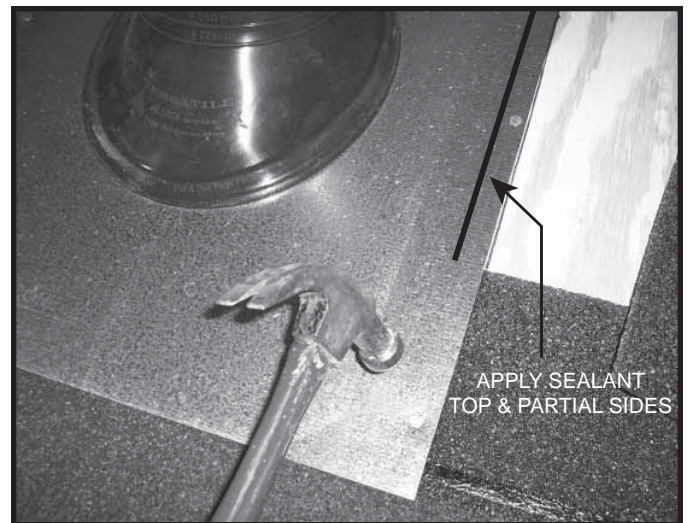
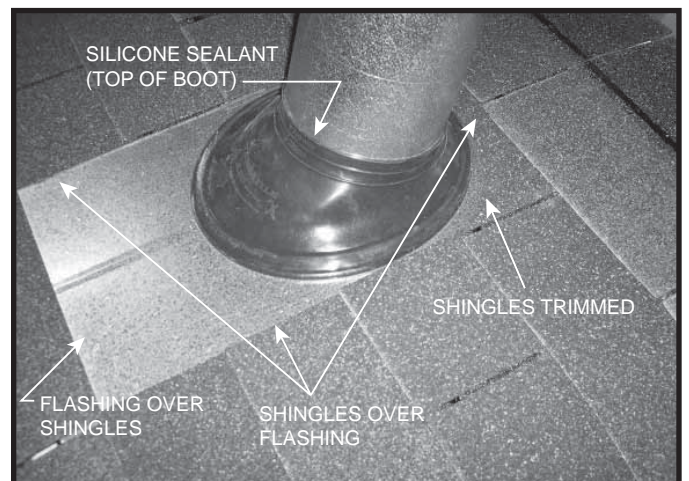

Figure 8.18 Slide Flashing Down, Secure & Apply Sealant
Figure 8.19 Installation Complete
- Apply silicone sealant on the top outside of the base plate on the sides and on top edge. See Figure 8.18. Install shingles, Apply sealant at the top edge of the rubber boot. See Figure 8.19.